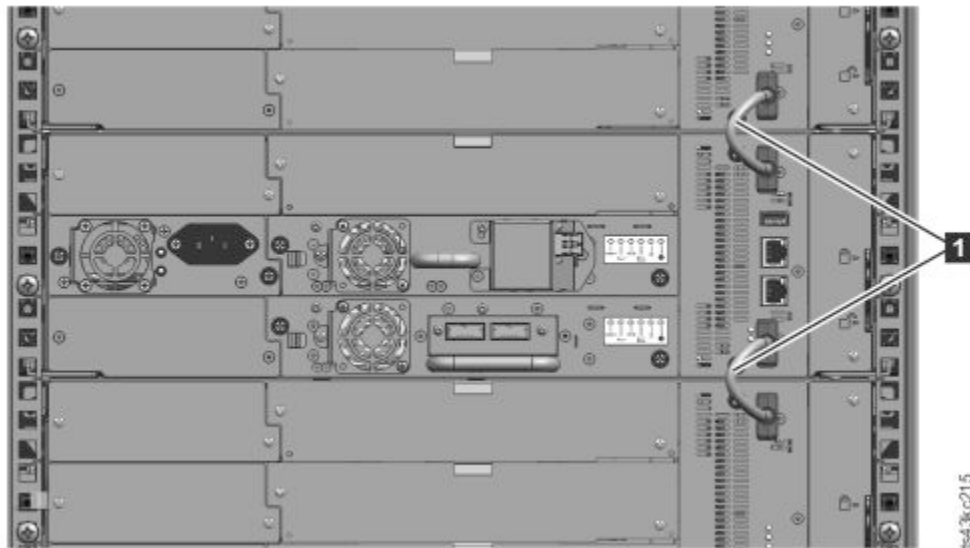

Figure 47. Connected modules
5. From the back of the library, connect the modules of each pair to its adjacent module by using the expansion interconnect cables (**1**) as shown in Figure 47 on page 50.